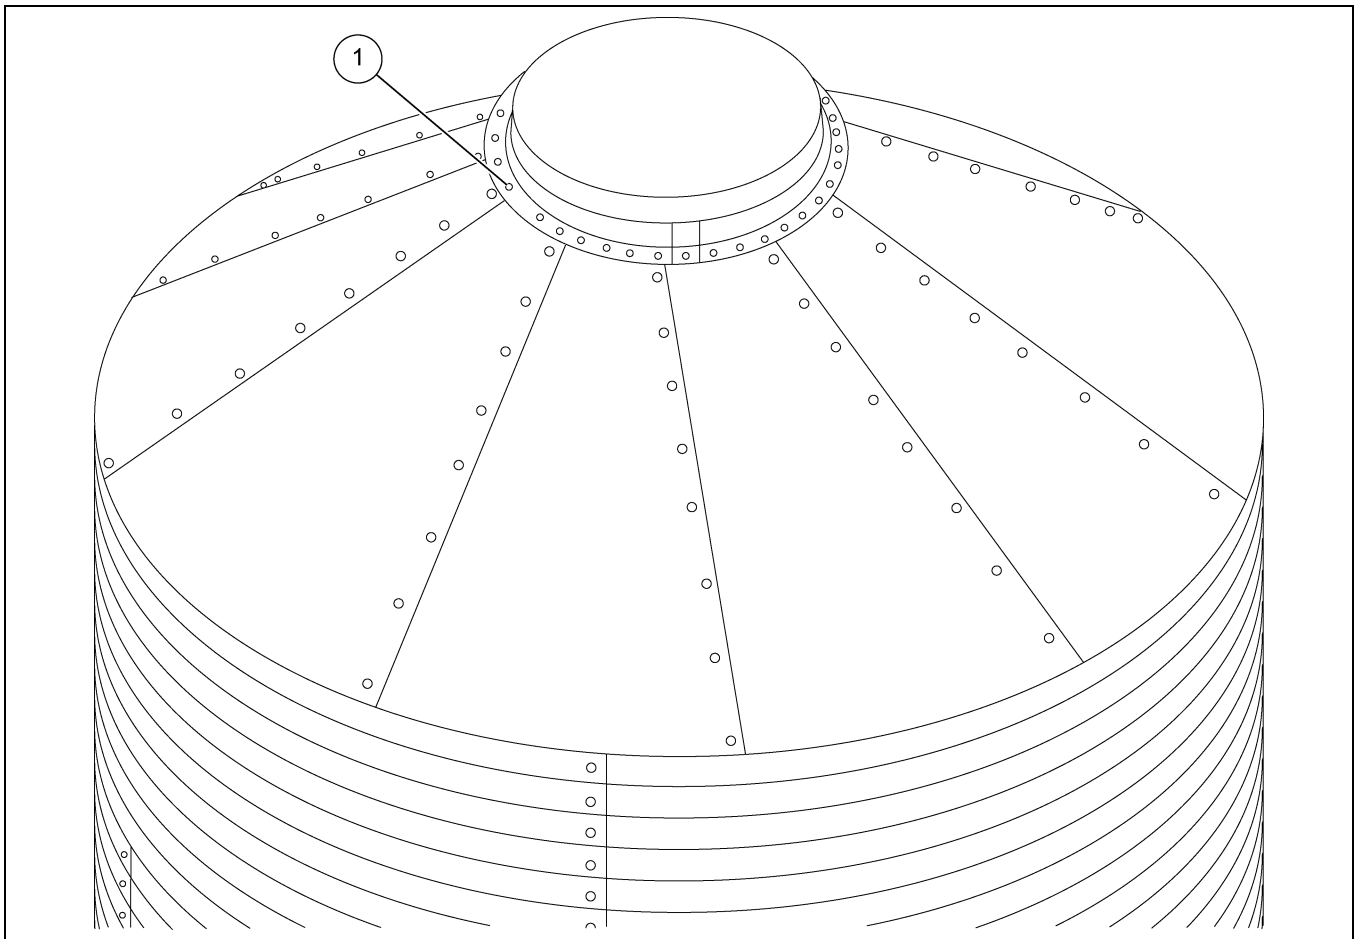

Figure 2A Anchor Point Installation Location
1. The BFT anchor point should be installed (1) at the top of the tank where the peak ring collar meets the roof sheet. (See Figure 2A.) Utilize the existing bolt holes along the perimeter of the peak ring collar.